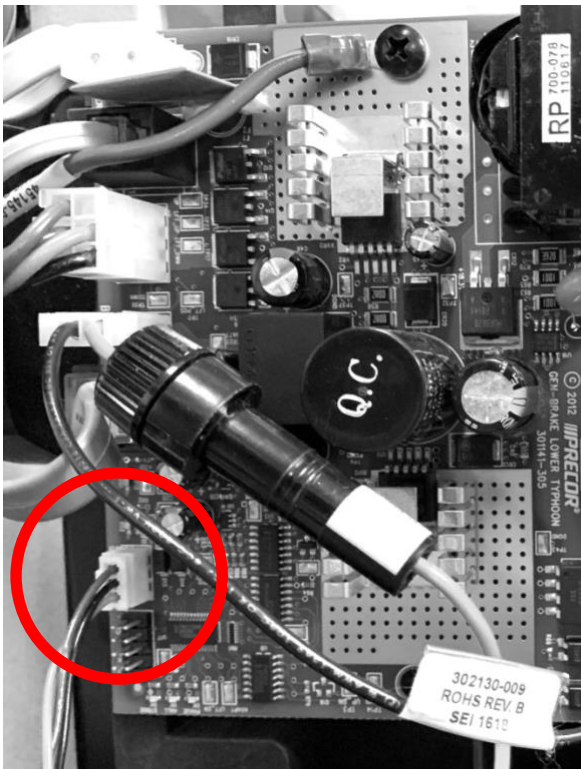

Figure 2: Vertical sensor plug
- a. If the problem is the sensor, unplug and remove the sensor and install the Vertical Sensor Jumper across pins 2 and 3 (**top two pins** – the bottom pin is pin 1) of the J8 connector. See Figures 2 and 3.